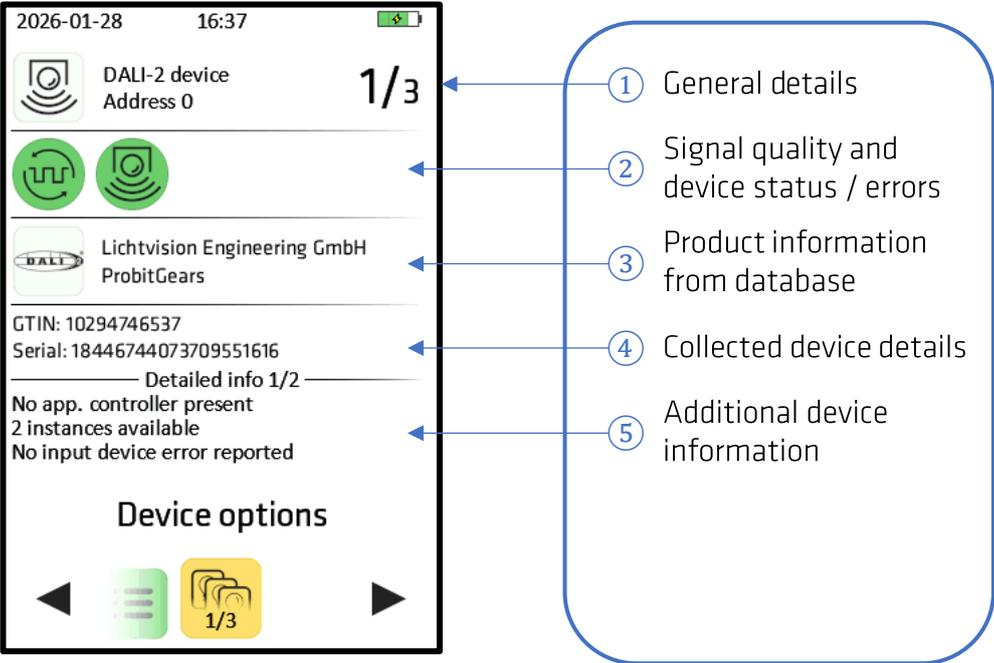

Figure 3
- 9.1 DALI version. See Figure 3: ①, ③